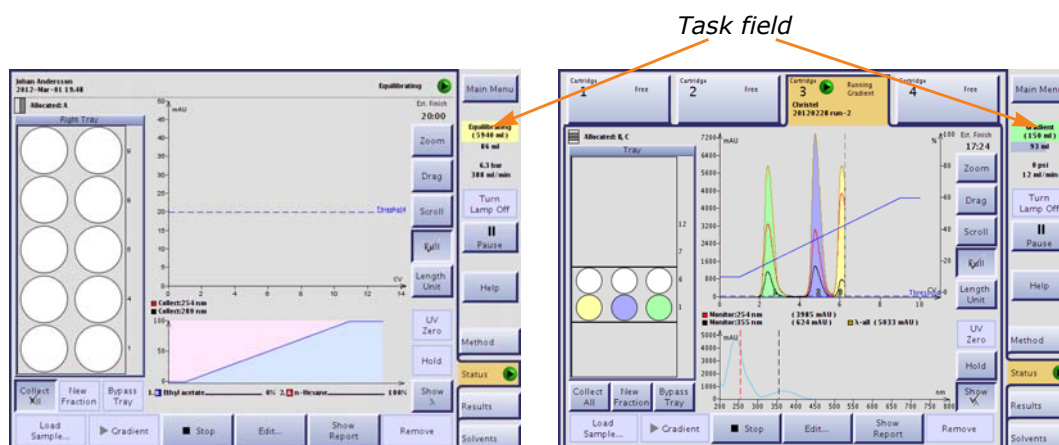

Figure 1-7. Chemistry Mode (Isolera LS and Isolera Four EXP with Spektra License Shown)
In the Chemistry mode, the software is divided into four (4) tabs that can be accessed in the right-hand panel (see Figure 1-7). Here is a short description of what you can do at each tab: